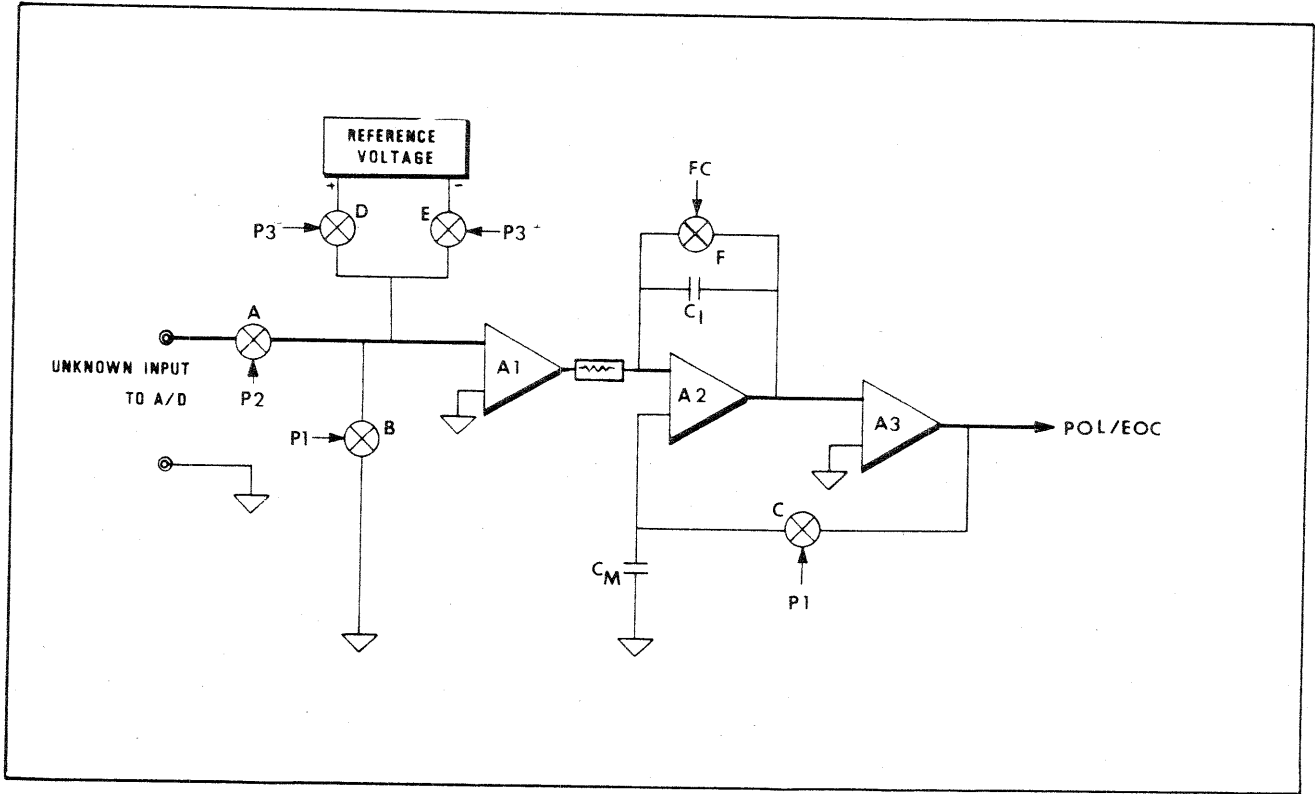

Fig. 1-1. Tri-Phase A/D Converting simplified block diagram
a. Conversion of an analog signal into a digital form is accomplished in a combination of analog and digital circuitry. The analog portion of the Tri-Phasic A/D conversion is illustrated in Figure 1-1. Programming of the A/D is accomplished by digital logic driven by a master clock and by signals derived from the analog circuit operation.
b. Tri-Phasic A/D conversion processes the analog signal into a proportionate time interval in the circuit of Figure 1-1 in the following 3 steps (or phases):